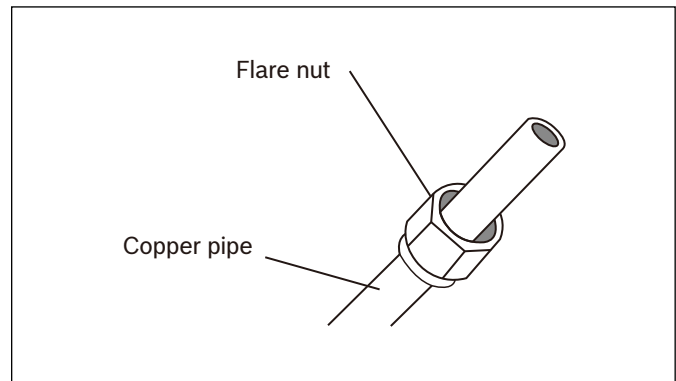

Figure 49
3. Place flare nuts on both ends of pipe. Make sure they are facing in the proper direction, because you can't put them on or change their direction after flaring. See Figure 49.